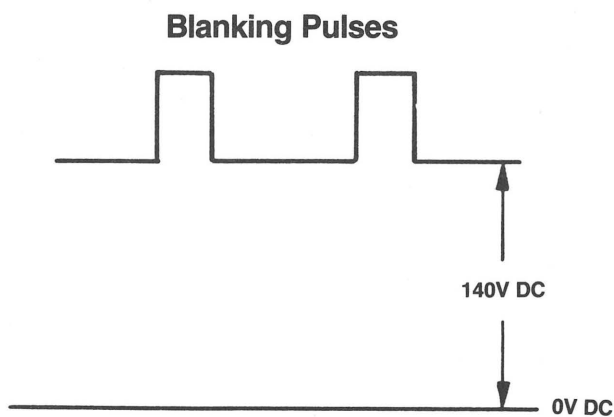

Figure 4 Blanking Pulse Waveform of Video Amplifiers
- c. Adjust the Sub-Brightness control so that the waveform is similar to the one shown in Figure 4.